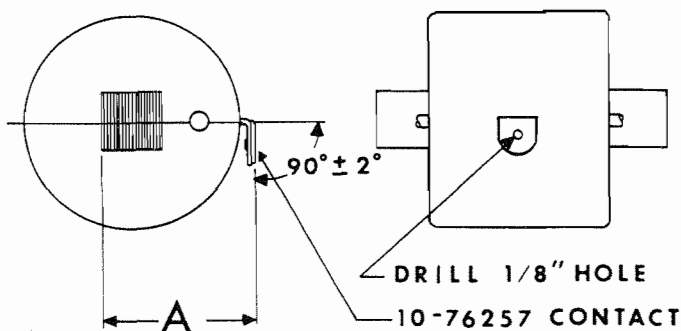

Figure 802. Correct Terminal Angle
- D. After contact and terminal have cooled, clean with alcohol. Check the  $90^\circ \pm 2^\circ$  angle as indicated in Figure 802. Dimension A shall be 1.720 inch.